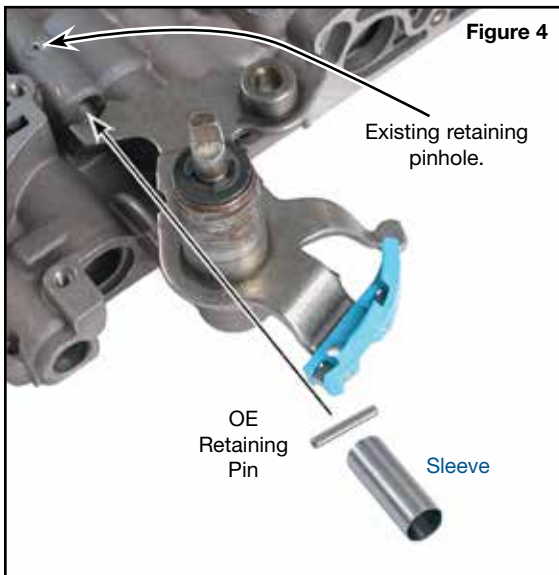

Figure 4
3. Install Detent Sleeve & Pin (**Figure 4**)